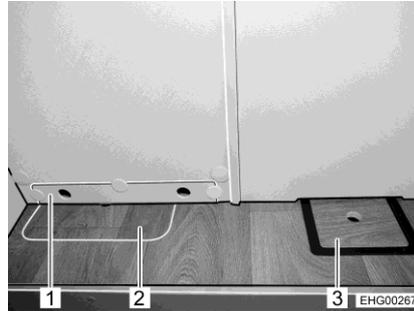

Fig. 154 Access to waste water tank at rear
- Remove the panel (Fig. 154,1).
- Open the floor trap for the waste water tank (Fig. 154,2)
- Open the floor trap for the drain cock (Fig. 154,3).
- Close the floor trap for the drain cock (Fig. 154,3).
- Close the floor trap for the waste water tank (Fig. 154,2).
- Replace the cover (Fig. 154,1).